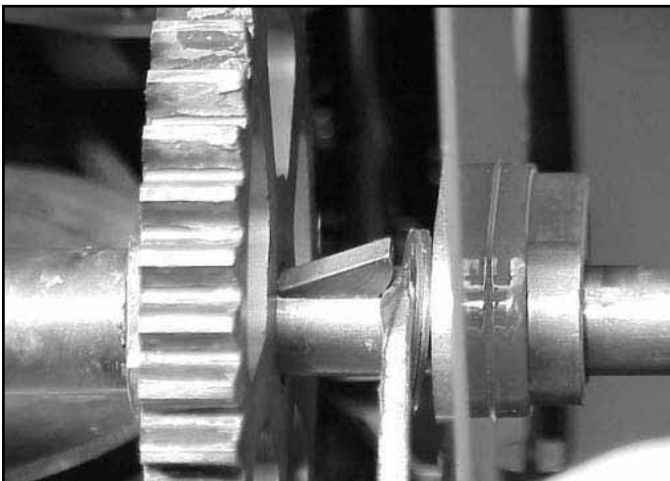

Fig 127
11. Remove woodruff key from one side of axle shaft by sliding the 44-tooth gear inward towards the center of the shaft to expose the woodruff key. Pry up on the outside edge of the key to remove it (Fig. 127).